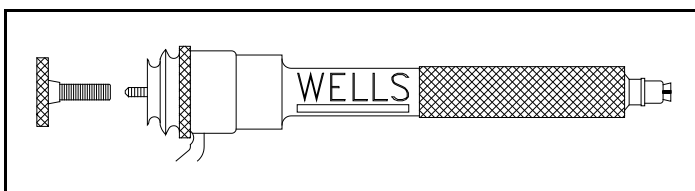

Figure 3.
- 3.3 Hold the collet all the way in so the threaded rod protrudes from the pulley. Engage the thumbscrew onto the threaded rod about 1/4 of a turn. See Figure 3.